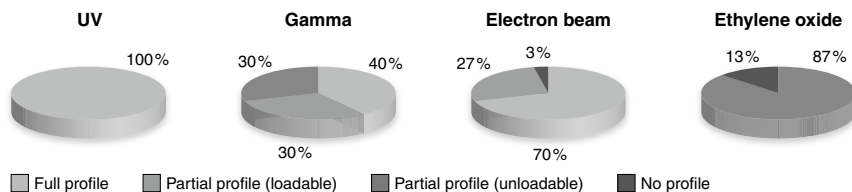

Figure 1 According to Shaw *et al.*, 2008, Comparison of the effects of sterilization techniques on subsequent DNA profiling. Int J Legal Med 122: 29-33.
NucleoSpin® Tissue XS is often used in highly sensitive applications and therefore the manufacturing process was optimized to reduce the risk of DNA contamination. MACHEREY-NAGEL has a stringently controlled production process to avoid DNA contamination of consumables. Further, MACHEREY-NAGEL uses ethylene oxide (EO) treatment to remove amplifiable DNA, which might still be introduced during the manufacturing process. MACHEREY-NAGEL products carrying the ethylene oxide treated plastic materials seal, contain plastic materials that are EO treated. This means, DNA of any kind, which might still be introduced into plastic consumables during the production process, is inactivated by means of the treatment with ethylene oxide, in order to prevent the generation of accidental human profile by PCR amplification. Ethylene oxide treatment has been shown to be the method of choice to prevent DNA profiles due to DNA contamination (Shaw et al. 2008; Figure 1).
An elution volume of 20 µL is recommended by default although volumes as small as 5 µL are feasible. A reduction of the elution volume from 20 µL to 5–15 µL will increase DNA concentration whereas the total DNA yield is only slightly affected. An increase of the elution volume to 30 µL or more will slightly increase total DNA yield but will reduce DNA concentration. Figure 1 gives a graphic description of the correlation between elution volume and DNA concentration and will thus help you to find the optimized elution volume for your individual application.